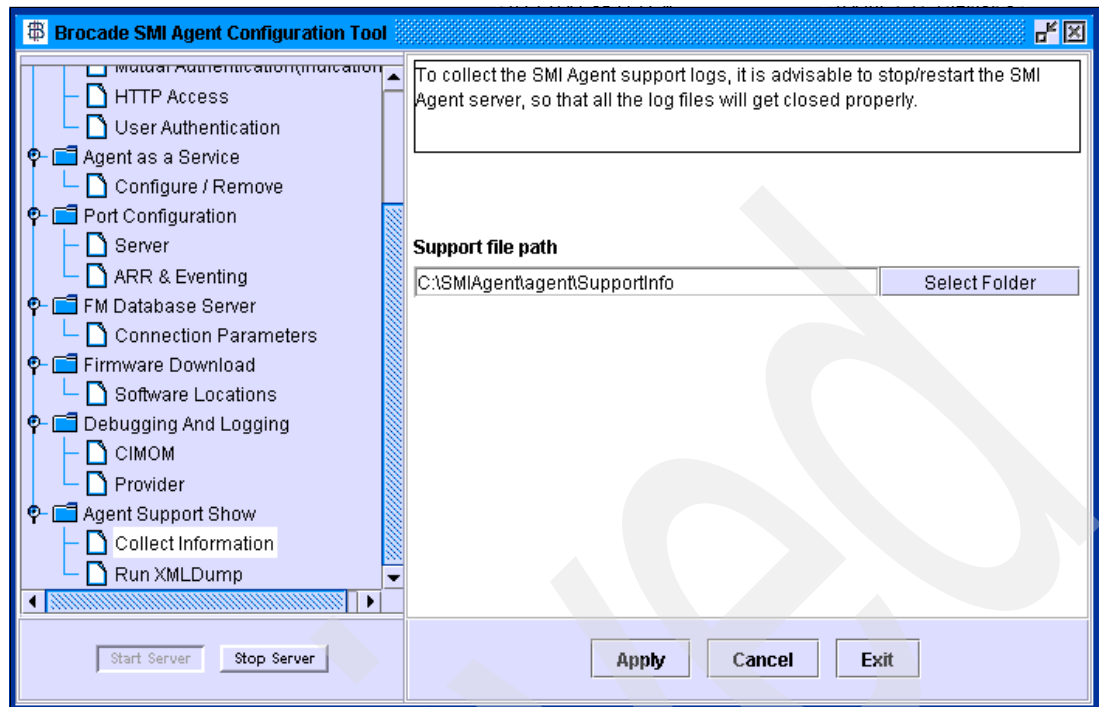

Figure 6-97 Brocade SMI Agent Collect Information
2. The Brocade SMI Agent Configuration Tool window opens. Select **Agent Support Show** → **Collect Information** (see Figure 6-97 on page 314).